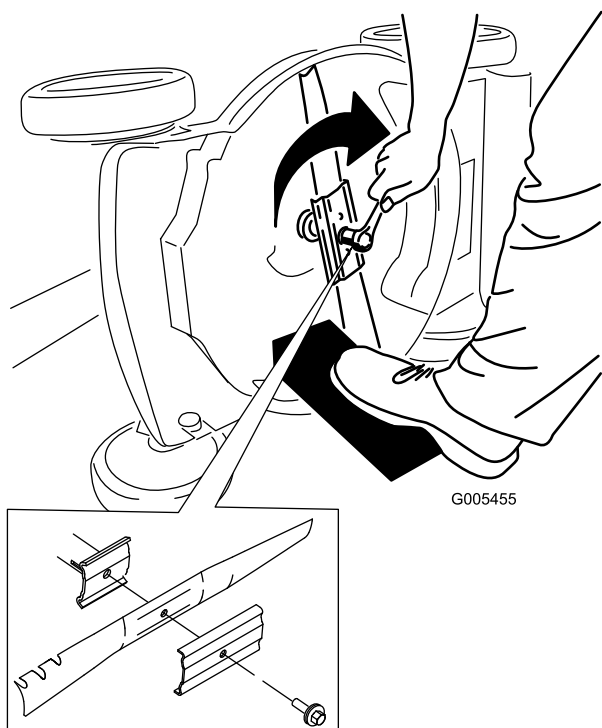

Figure 44
4. Remove the blade, saving all mounting hardware (Figure 44).
5. Install the new blade and all mounting hardware (Figure 44).